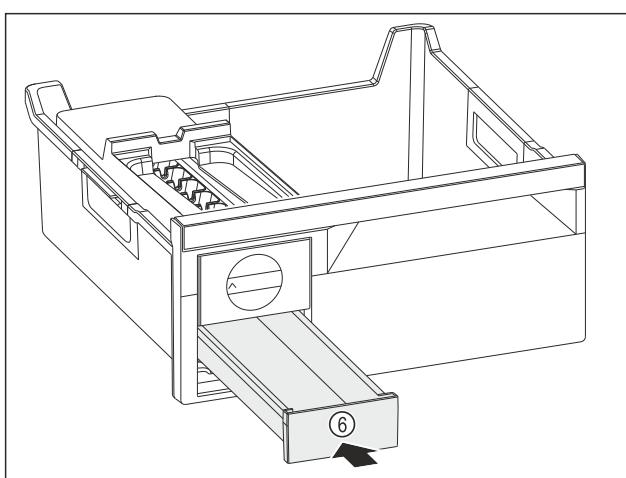

Fig. 82
- ▶ Insert the ice cube drawer *Fig. 82 (6)*.